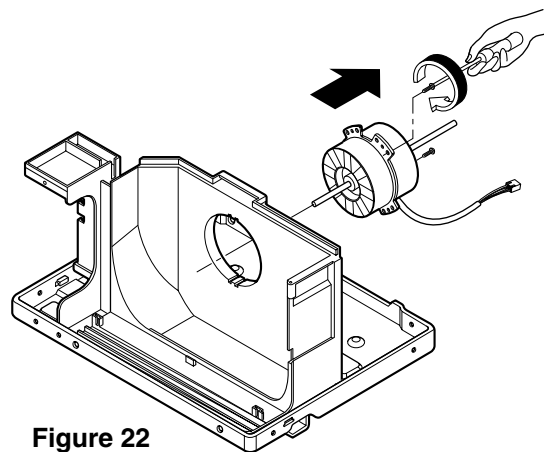

Figure 22
7. Remove 2 screws that secure the motor to the motor. (See Figure 22)